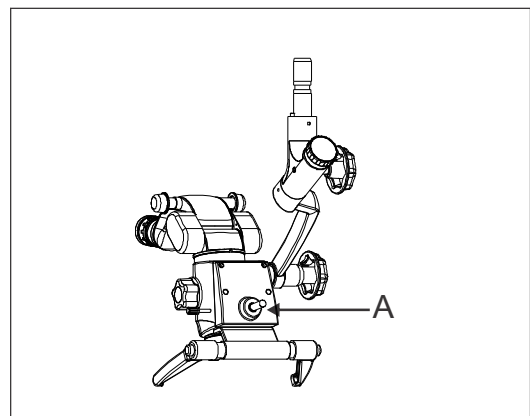

Fig. 6
- Insert the light guide into the receptacle in the microscope till it clicks into position as shown as A in Fig. 6
Fig. 6 a